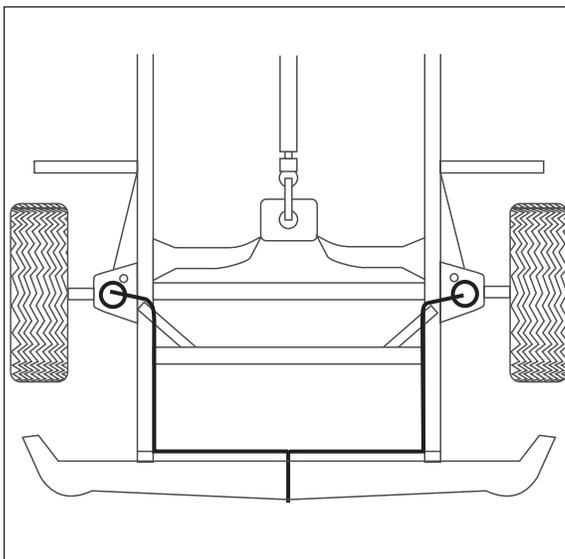

Figure 5
- Push the remaining air line over the last fitting on tee and route along frame to desired inflation valve location (Figure 5). Attach with plastic straps or wire.
- Select a location for inflation valve in the front bumper, fender flange or behind the license plate, assuring that the valve will be protected and accessible with an air hose (Figure 5).
- Slide air line clamp over the air line. Push air line onto fitting covering all barbs, with pliers slide the air line clamp forward until it fully covers the barbed section (Figure 5).